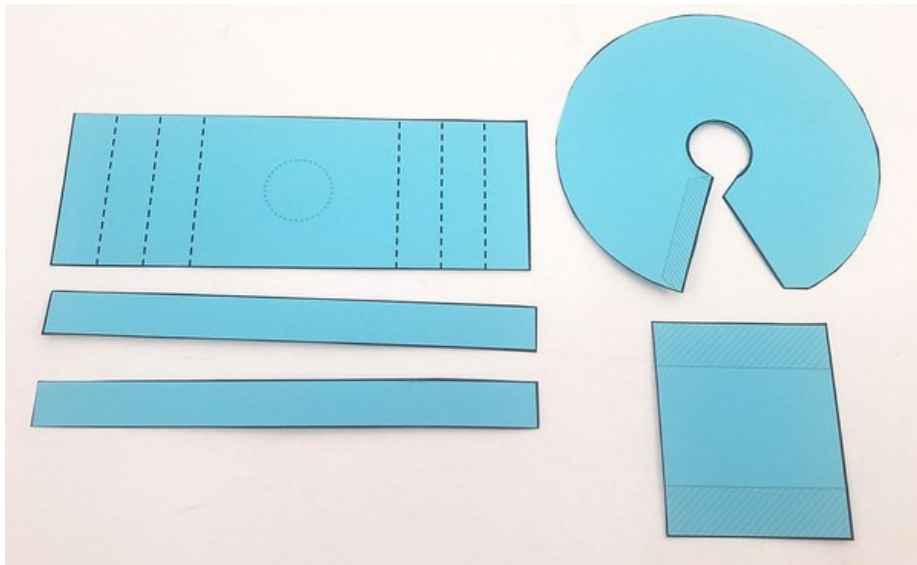

Figure 3. Template pieces cut out.
- 2) Cut all the pieces of the template out along the solid lines (Figure 3).